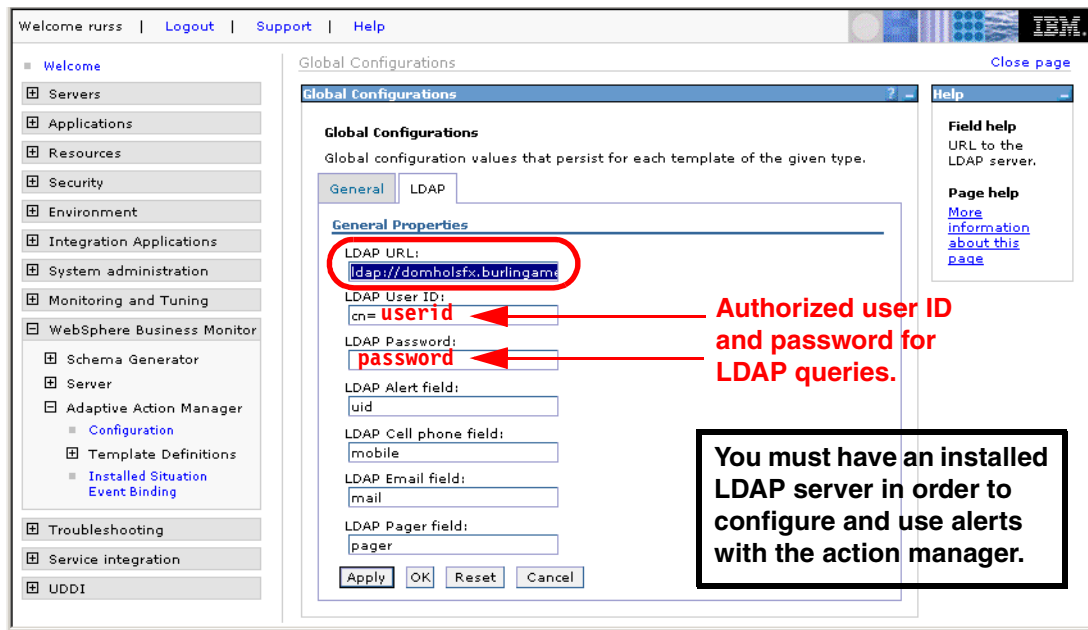

Figure 12-16 Adaptive action manager LDAP configuration
- ▶ Select the *LDAP* tab. Enter your LDAP URL, LDAP administrator user ID and password (Figure 12-16).